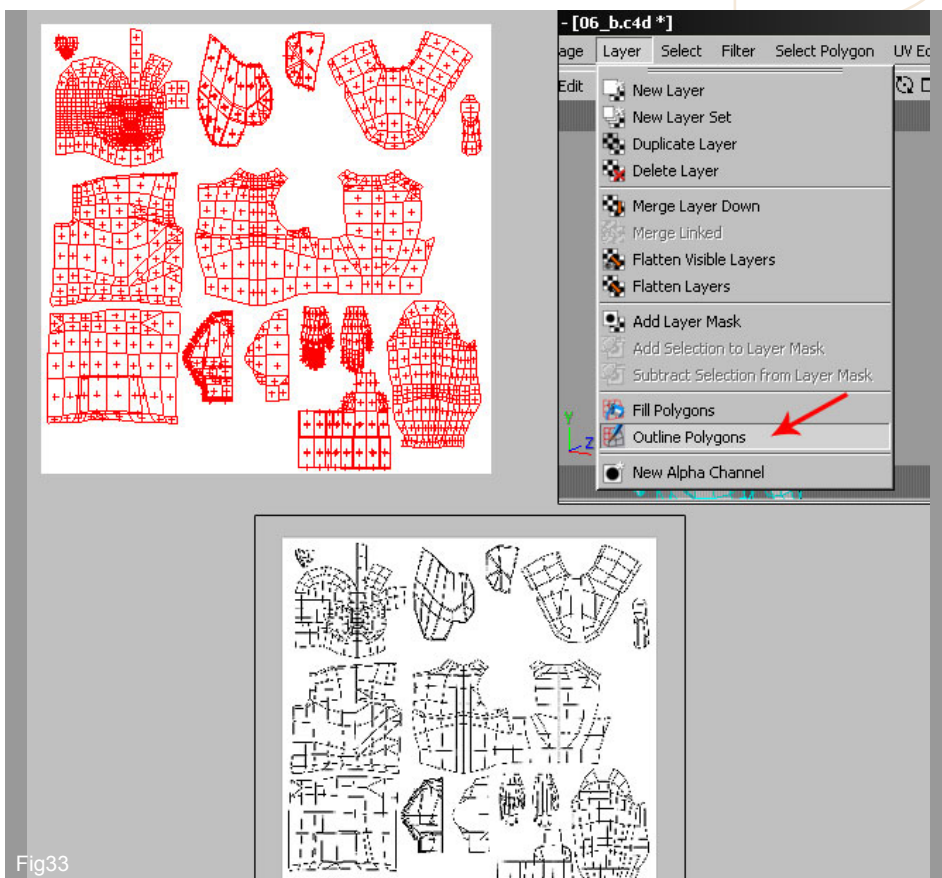

Fig33
33. Select the Brush tool and change its size, pressure and hardness in its properties. Select now the mesh like shown in Fig33 and from main menu go into Layer and choose Outline Polygons. This will draw onto your texture the outline of all poly's and this will be your guide to make the texture in Photoshop. Save the texture.